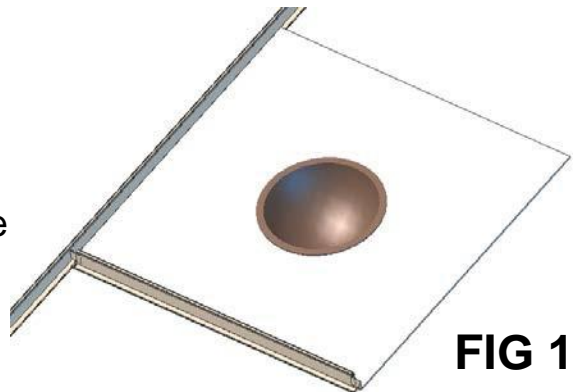

FIG 1
Open carton and review each part and familiarize yourself with each part. See Fig. 1
Step 3: Install wire safety tether to red iron (Figure 1) leaving loose end hanging.
- Please refer to **FIG 1**